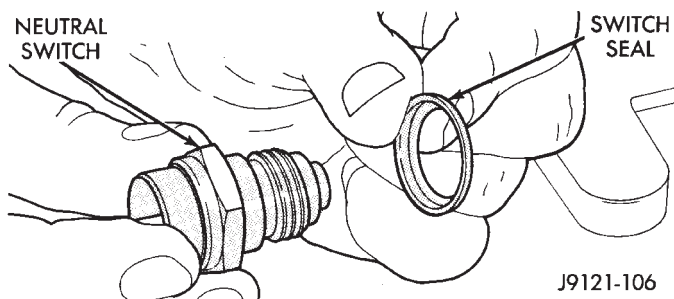

Fig. 125 Park/Neutral Position Switch Seal Position
(35) Install seal on park/neutral position switch (Fig. 125). Then install and tighten switch to 34 N·m (25 ft. lbs.).